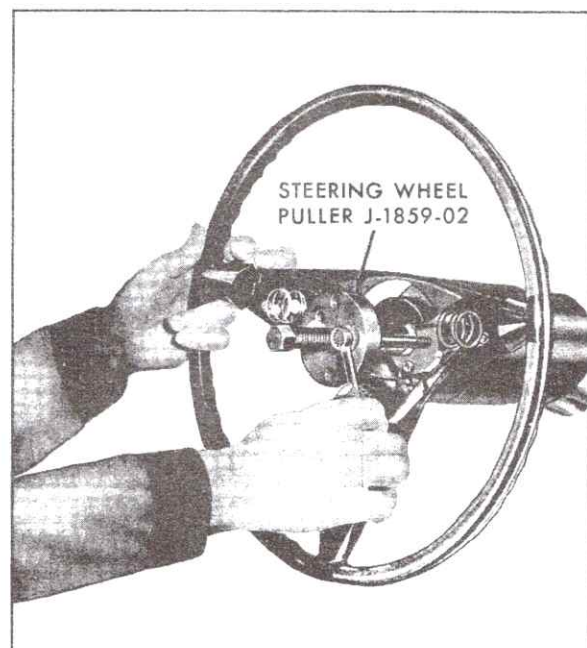

Fig. 9-41 Removing Steering Wheel
9. Tighten 5/16"-18 bolts alternately until steering wheel is loose on shaft, Fig. 9-41.